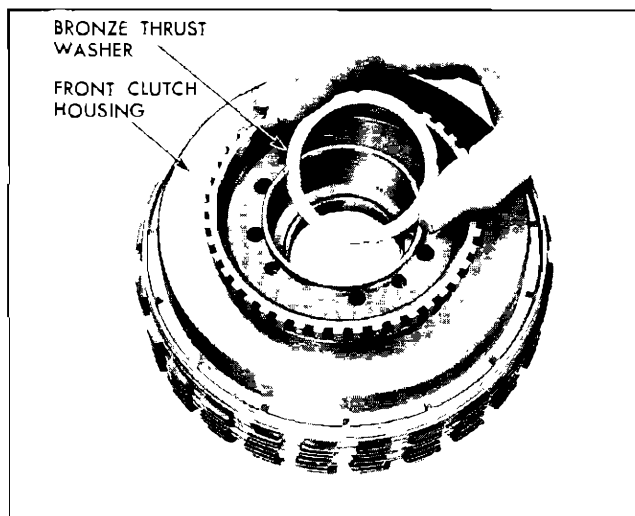

Fig. 80 Thrust Washer in Front Clutch Housing
1. Remove the bronze thrust washer from the front clutch assembly if it has not been removed (Fig. 80).
10. Install bronze thrust washer into recessed I.D. of front clutch housing bore using petroleum to retain (Fig. 80).